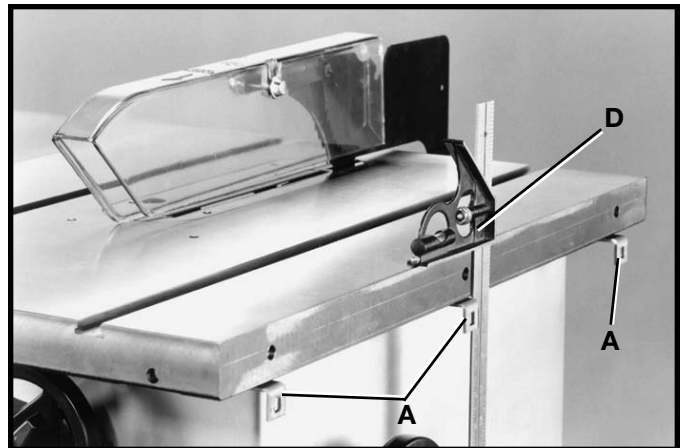

Fig. 44
2. Using a square (D) Fig. 44, make certain the Z-brackets (A) are perpendicular to the saw table as shown. Also, lift upward on Z-brackets (A) while tightening screws (C) to eliminate any play.